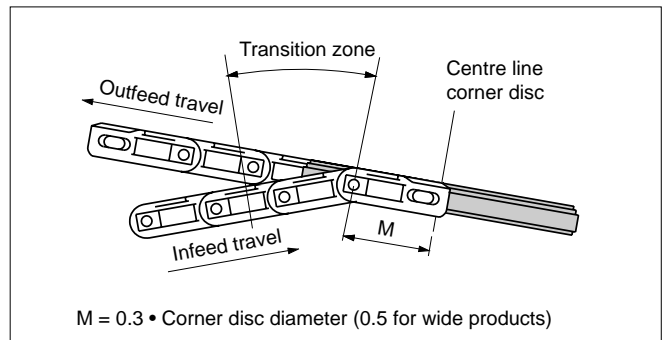

Fig. 29- Side view of incline conveyor at corner disc.
ON AN INCLINE, the chain must pass through a transition zone before entering the disc. The disc should be tilted slightly so that it lies in the same plane as the outfeeding chain. Aside from this, attention should be given to the minimum spacing (M) (see figure 29)